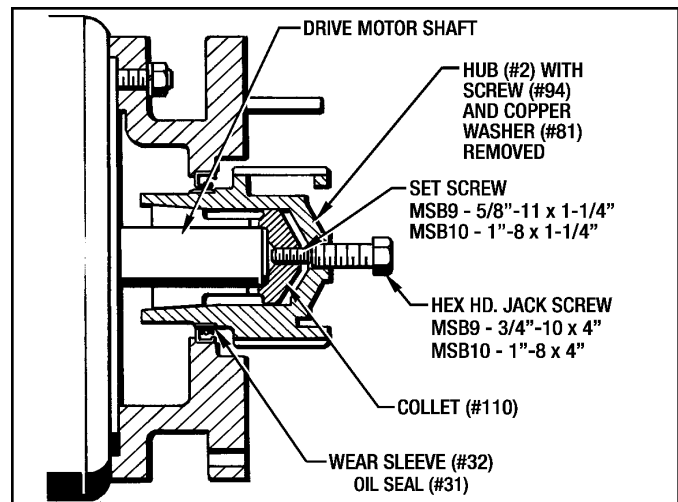

Figure 7.8 - Removing Hub (#2) for MSB9 and MSB10
- Insert a 5/8"-11 Set Screw then a 3/4"-10 x 4" Lg. Hex Hd. Jack Screw into the Hub (#2) as shown in Figure 7.8. While holding the Hub (#2) with the Hub Holding Tool tighten the Jack Screw to push the Hub (#2) off the Collet (#110).
- Insert a 3/4"-10 Set Screw then a 1"-8 x 4" Lg. Hex Hd. Jack Screw into the Hub (#2) as shown in Figure 7.8. While holding the Hub (#2) with the Hub Holding Tool tighten the Jack Screw to push the Hub (#2) off the Collet (#110).